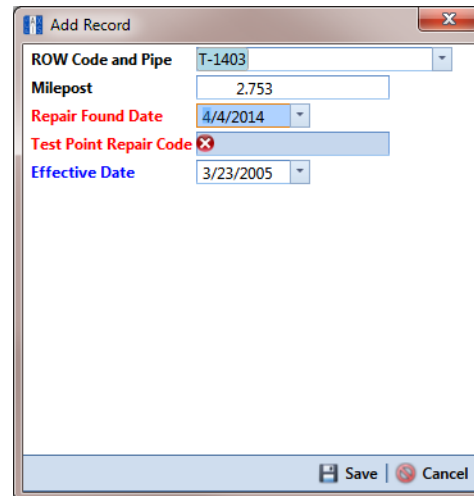

Figure 7-21. Add Record
- Click  **Save** to display required field(s) for data entry (Figure 7-21, page 206). Required fields are identified with the  icon, such as *Test Point Repair Code* in the next figure (Figure 7-21, page 206).